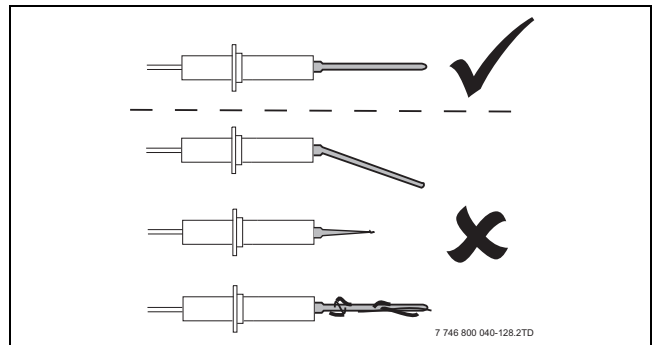
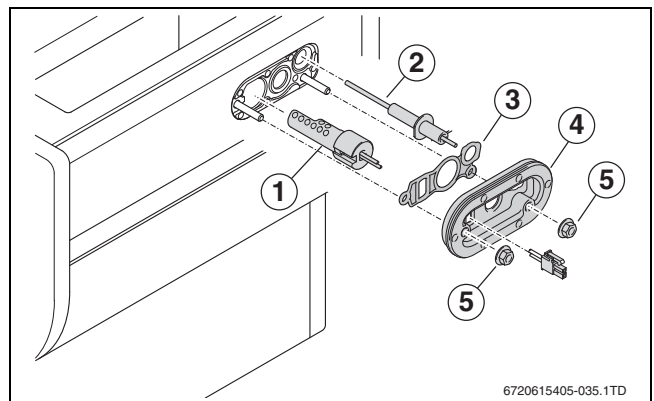

Fig. 110 Checking the ionisation electrode
Fig. 111 Replacing the ignition unit
- ▶ The rubber seal (→ fig. 111, [3]) and the cover plate with seal (→ fig. 111, [4]) need to be replaced every 4 years.
- ▶ Check the individual components of the ignition unit (→ fig. 111) for wear or contamination (→ fig. 110).